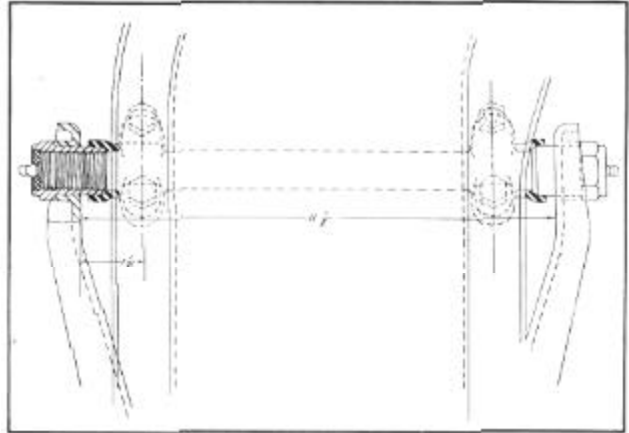

Figure 9
3. Install bushings and adjust with tool J 1052 so that a dimension of 11" is obtained between inner faces of the control arm. See Figure 9. A dimension of 11-1/2" must also be obtained between inner face of the support arm and the center line of the bolts holding the pivot to the cross member.